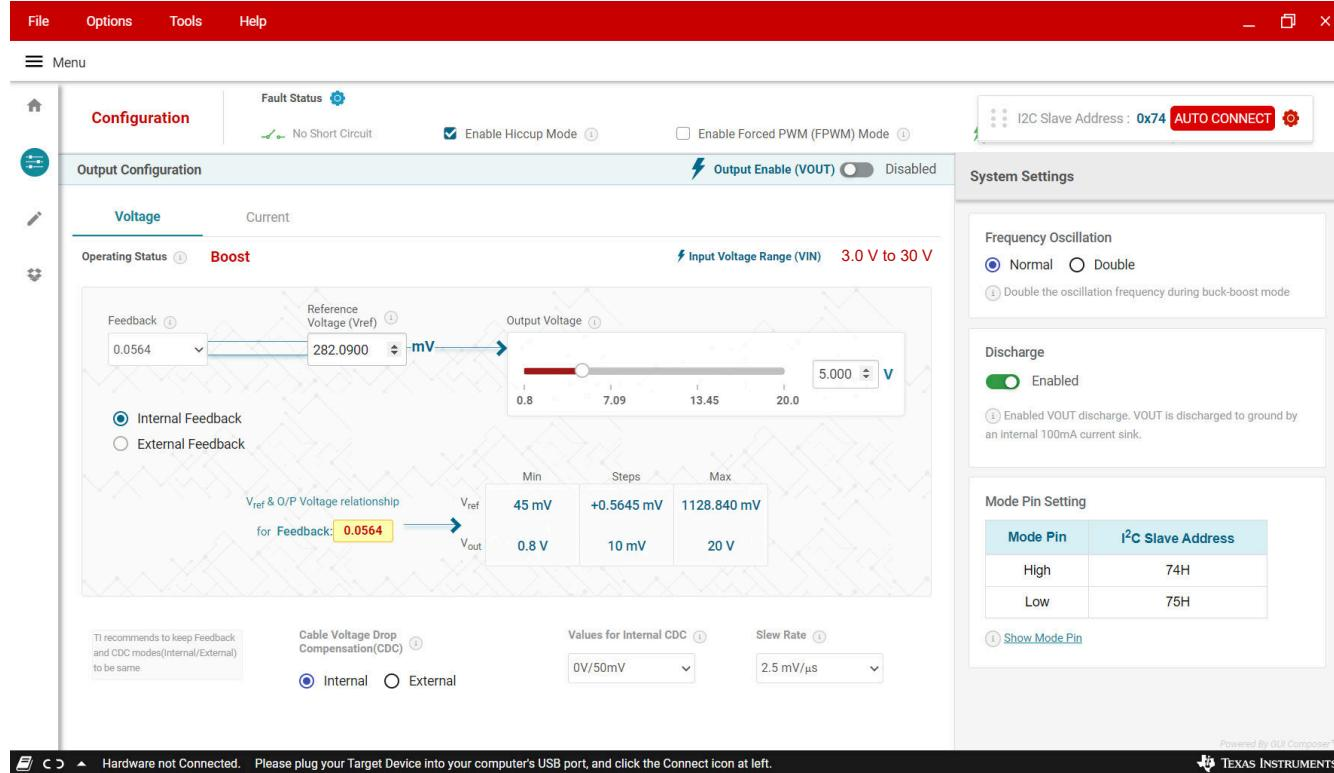

Figure 4-4. GUI User Interface of TPS55289EVM-093
- Click the start button. It will show the GUI user interface of TPS55289EVM-093 (Figure 4-4).